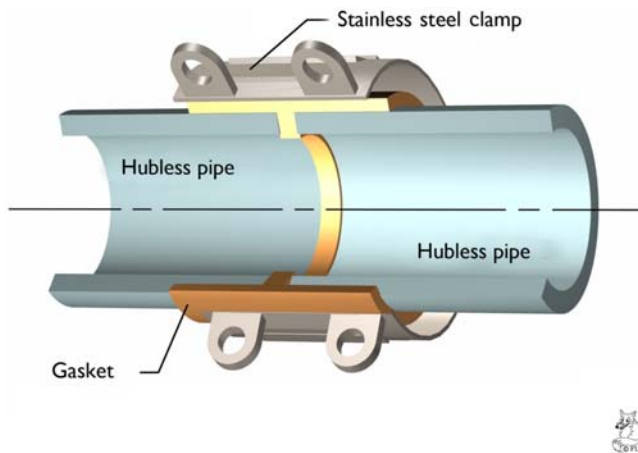

FIGURE 2.11 Cast iron hubless pipe coupling.
**Hubless cast iron pipe** uses pipe and fittings manufactured without a hub. The method of joining these pipes and fittings uses a hubless coupling that slips over the plain ends of the pipes and fittings and is tightened to seal the ends. Hubless cast iron pipe is made in only one wall thickness and ranges in diameter from 1½" to 10". Figure 2.11 depicts the hubless cast iron pipe joint.